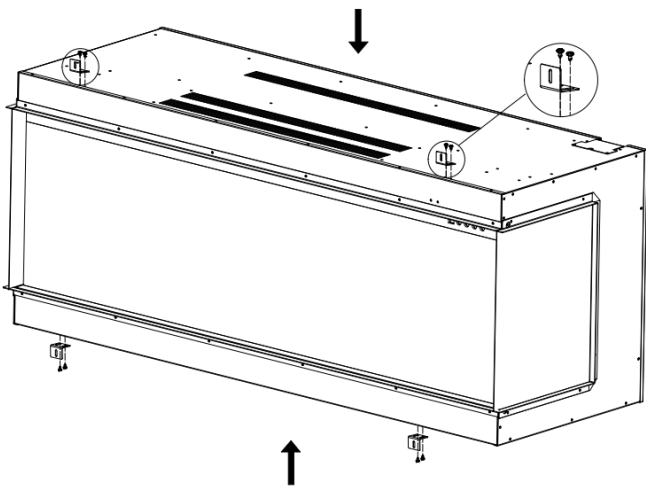

Fig.3-2
5. Fix the L shape brackets (I) with the screws in the previous step. Fig.3-2